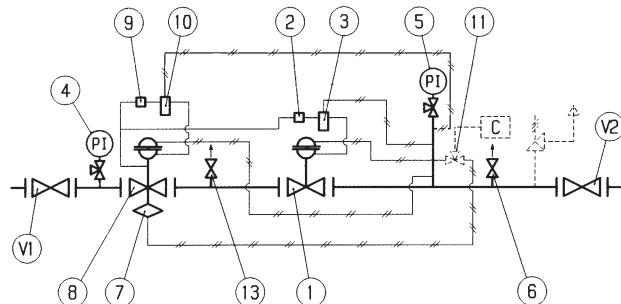

Fig. 25
5.6 MESSA IN SERVIZIO REGOLATORE REFLUX 819 PIÙ MONITOR IN LINEA REFLUX 819 CON VALVOLA DI BLOCCO INCORPORATA SB/82 (FIG. 25)
5.6 COMMISSIONING THE REGULATOR REFLUX 819 PLUS REFLUX 819 IN-LINE MONITOR WITH SB/82 SLAM-SHUT VALVE (FIG. 25)
5.6 INBETRIEBNAHME DES REGLERS REFLUX 819 MIT IN SERIE GESCHALTETEM MONITORREGLER REFLUX 819 MIT INTEGRIERTEM SICHERHEITSABSERRVENTIL (ABB. 25)
5.6 MISE EN SERVICE DU DETENDEUR REFLUX 819 ET MONITOR EN LIGNE REFLUX 819, AVEC VANNE DE SECURITE INCORPOREE (FIG. 25)
5.6 PUESTA EN SERVICIO DEL REGULADOR REFLUX 819 MAS EL REGULADOR MONITOR EN LÍNEA REFLUX 819 CON VALVULA DE BLOQUEO SB/82 (FIG. 25)
5.6 ACTIVAÇÃO DO REGULADOR REFLUX 819 COM MONITOR DE LINHA REFLUX 819 COM VÁLVULA DE BLOQUEIO SB/82 (FIG. 25)